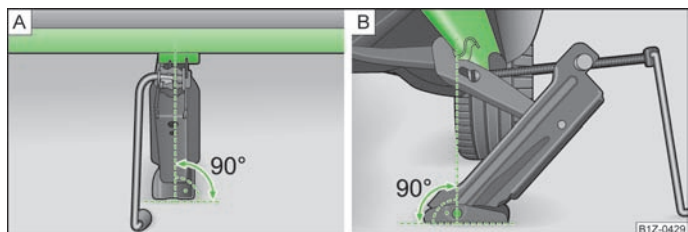

Fig. 160 Attach lifting jack
- Align the lifting jack so that its claw grasps the web » Fig. 160 - under the marking.
- Ensure that the entire surface of the lifting jack base plate rests on level ground and is located in a vertical position to the area » Fig. 160 where the claw grasps the web.